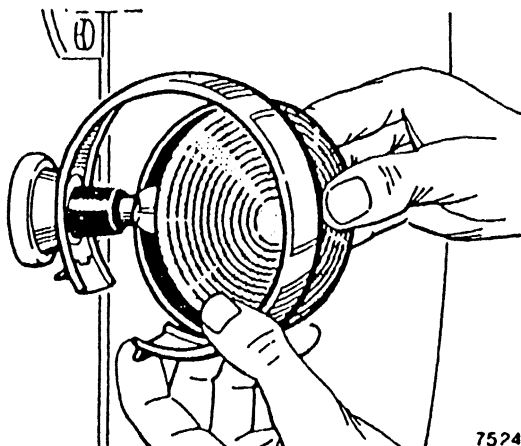

Fig 30 Front turn signal light
43. To gain access to the roof light lamp (Fig 30), remove the lens by carefully squeezing top and bottom sides together and pulling downwards.